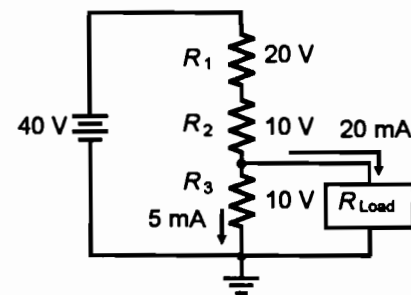

Figure 1.6
3. Figure 1.6 shows a loaded voltage divider. With the information given, determine the following values: